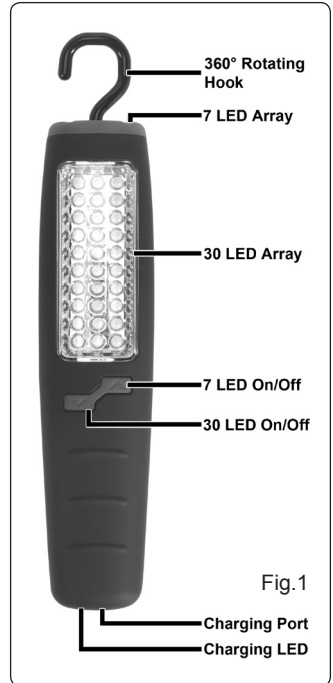

Fig.1
- 3.1 Connect the charger into the charging port (Fig.1) on the bottom of the lamp. Plug into power supply and turn on, the charging LED (Fig.1) will light RED to show charging has commenced.
- 4.1 Direct the lens away from your eyes before switching on. There are two buttons in the switch on the top button with an upward facing arrow turns on the 7 LED array on the top of the lamp. The downward facing arrow turns on the 30 LED array. See Fig.1.